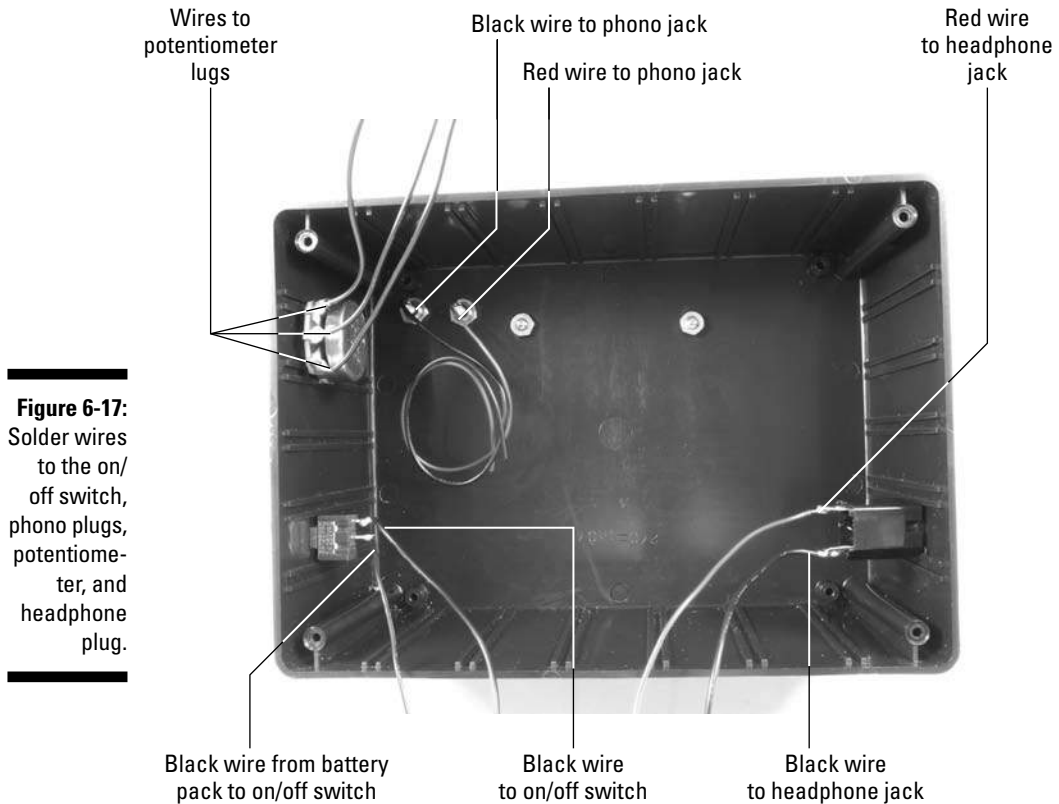

Figure 6-17:
8. Solder the black wire from the battery pack to one lug of the on/off switch and solder an 8" black wire to the remaining lug of the on/off switch, as shown in Figure 6-17.
9. Solder one 8" black wire to the lug on one of the audio jacks and solder one 8" red wire to the lug on the other audio jack, as shown Figure 6-17.
10. Solder 8" wires to each of the three potentiometer lugs, as shown in Figure 6-17.
11. Solder one 8" black wire and one 8" red wire to the lugs of the headphone jack, as shown Figure 6-17.